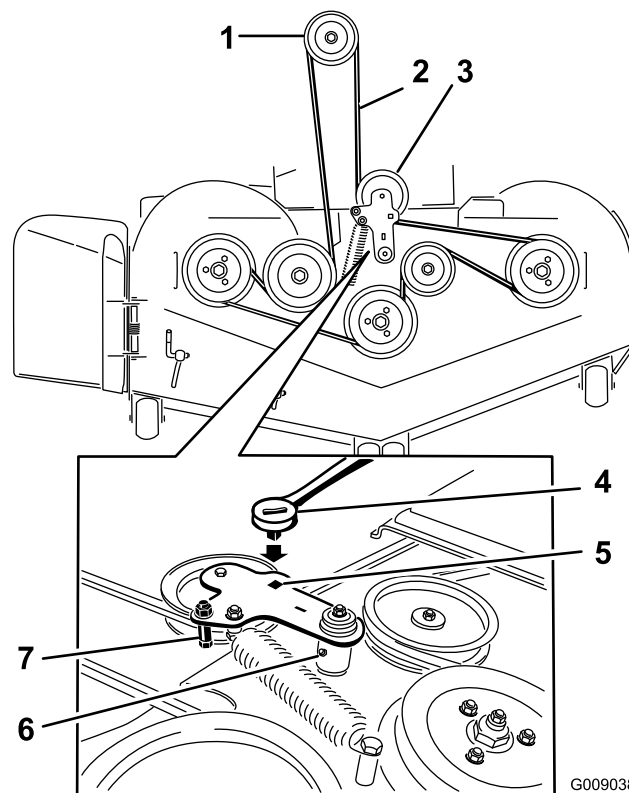

Figure 75
10. Install the belt guide on the idler arm shown in Figure 75.
11. Using the ratchet in the square hole, install the idler spring (Figure 75).
5. Use a ratchet in the square hole in the idler arm to remove tension on the idler spring (Figure 75).
7. Remove the belt guide on the spring loaded idler arm shown in Figure 75.
9. Install the new belt around the mower pulleys and the clutch pulley under the engine (Figure 75).